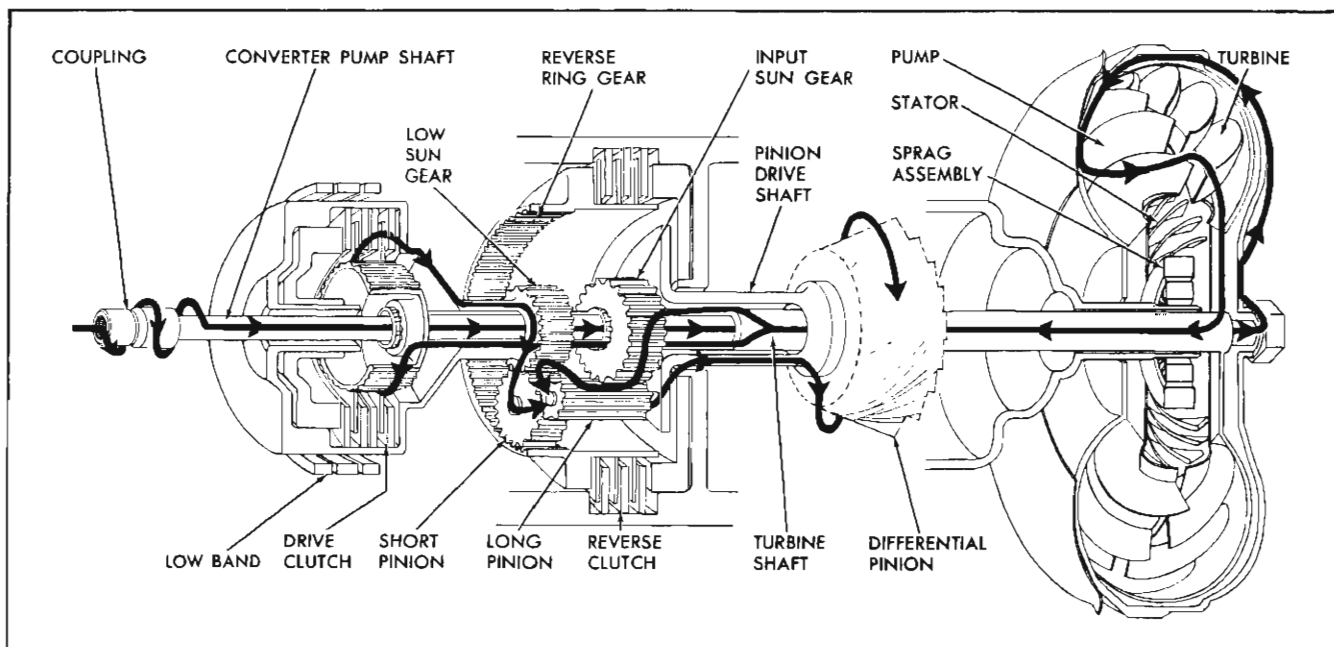

Fig. 7A-4 Power Flow—Direct Drive
**POWER FLOW—DIRECT DRIVE (FIG. 7A-4)**